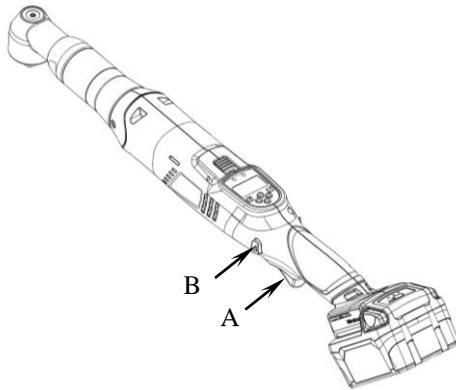

Fig. 3
To select forward rotation, RELEASE THE SWITCH (A) (see Fig.3), and push the forward/reverse lever (B) (see Fig.3) toward left side of the tool. ◀
To select reverse rotation, RELEASE THE SWITCH (A) (see Fig.3), and push the forward/reverse lever (B) (see Fig.3) toward right side of the tool. ▶